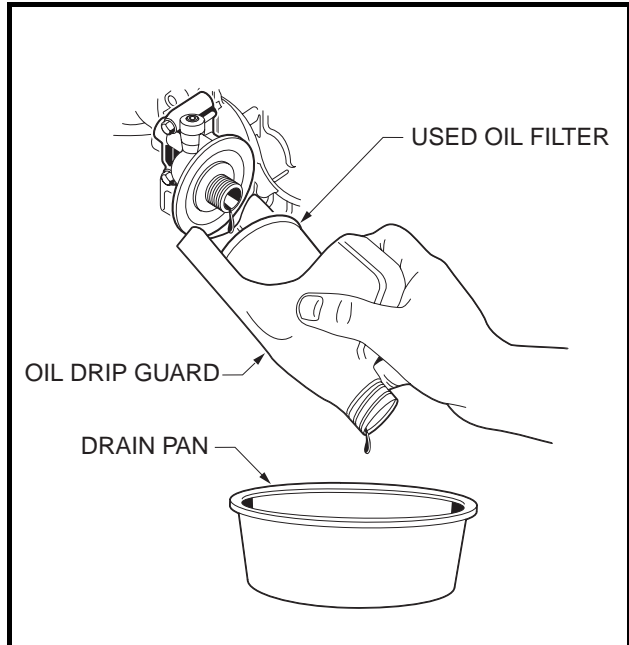

Figure 23 Remove Engine Oil Filter
9. Relocate the oil drain pan to a position under the engine oil filter (**Figure 23**).
NOTE: An oil drip guard can be used to prevent excess oil from dripping into the engine base place. Use an empty quart (one liter) container and cut the bottom off at an angle, then slide the open area of the container up and under the oil filter prior to removing. Position the port of the plastic container so oil will be directed into the oil pan (**Figure 23, Page 40**). A drip guard can be made by folding a piece of cardboard, thin metal, or plastic under the oil filter forming a channel to direct the filter port oil into the drain pan.